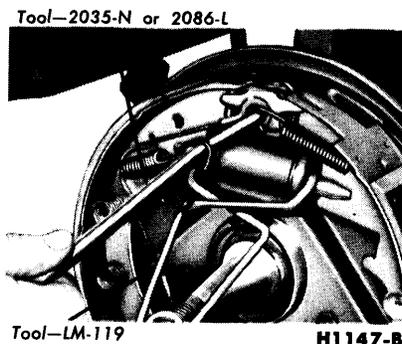

FIG. 17—Retracting Spring Installation
6. Install the primary shoe to anchor spring (Fig. 17).
8. Install the secondary shoe to anchor spring with the tool shown in Fig. 17.